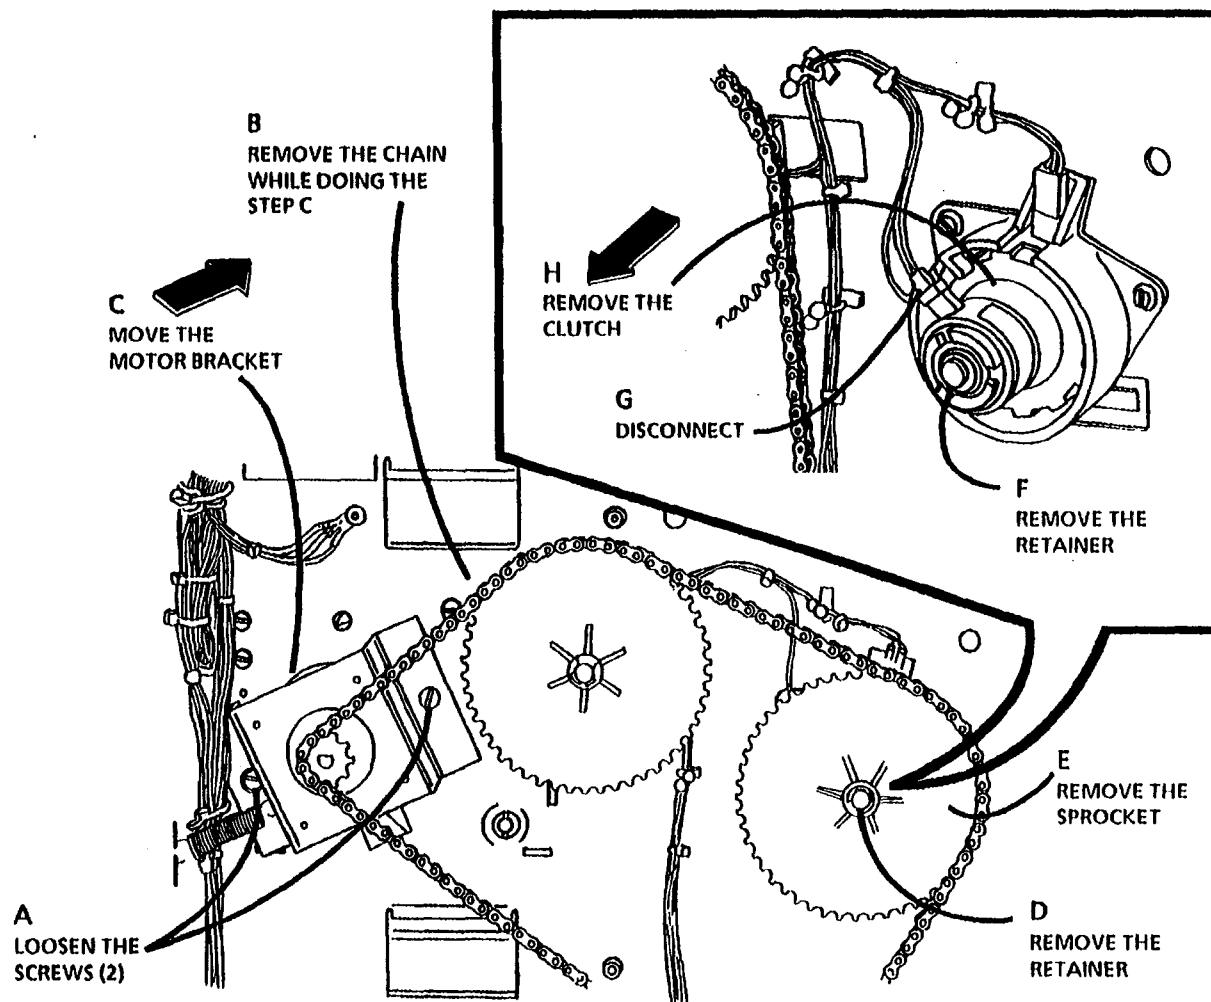

Figure 1. Remove the Clutch
3. (Figure 1): Remove the Clutch.